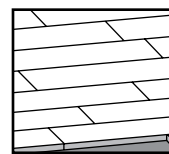
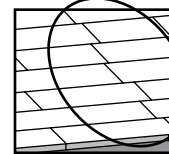

Figure 1.1 (correcte)
Figure 1.2 (incorrecte)
**STEP 5:** Install the balance of the floor with a hardwood flooring nailer, always keeping in mind to space the strips / planks so as to avoid unsightly clusters of end joints (see figure 1.1 and figure 1.2)